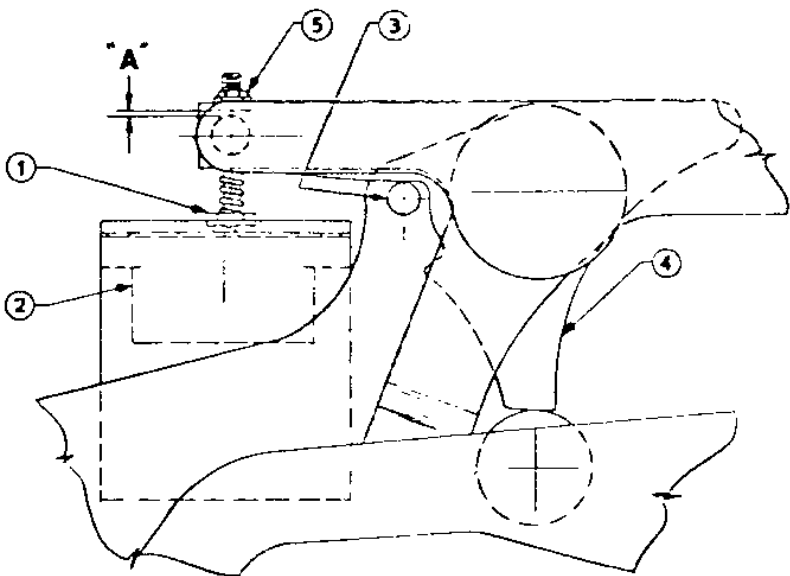

Fig. 7 – Latch Check Switch Adjustment
5.9 OPERATING MECHANISM (see Figure 7)